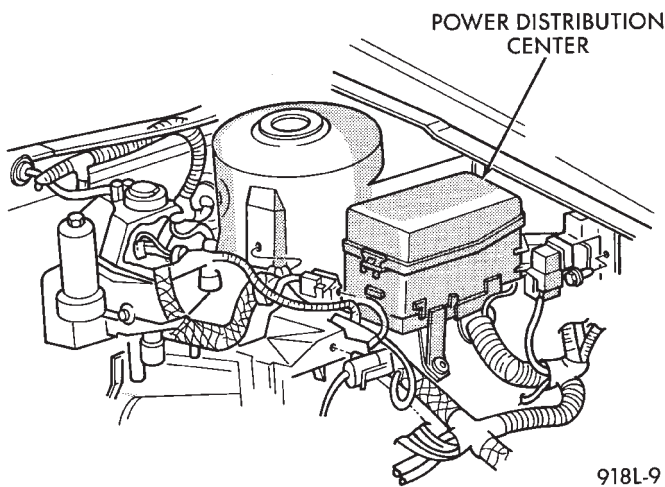

Fig. 13 Starter Relay Location—AC, AG, AJ, and AY Bodies
(1) Verify battery condition. Battery must be in good condition with a full charge before performing any starter tests. Refer to Battery Tests.
(2) Perform this starter solenoid test **BEFORE** performing the starter relay test.
(3) Raise the vehicle.
(4) Perform a visual inspection of the starter/starter solenoid for corrosion, loose connections or faulty wiring.
(5) Lower the vehicle.
(6) Locate the starter relay as follows:
- On AC, AG, AJ and AY Bodies the relay is located in the Power Distribution Center. This Center is mounted near the front of the left front strut tower (Fig. 13). The position of the starter relay within this Center will be shown on the Center cover.
(2) Perform the preceding starter solenoid tests **BEFORE** performing starter relay tests. Refer to Starter Solenoid Test.
(3) Locate and remove the starter relay. For starter relay locations, refer to Starter Solenoid Test (Fig. 13 or 14).